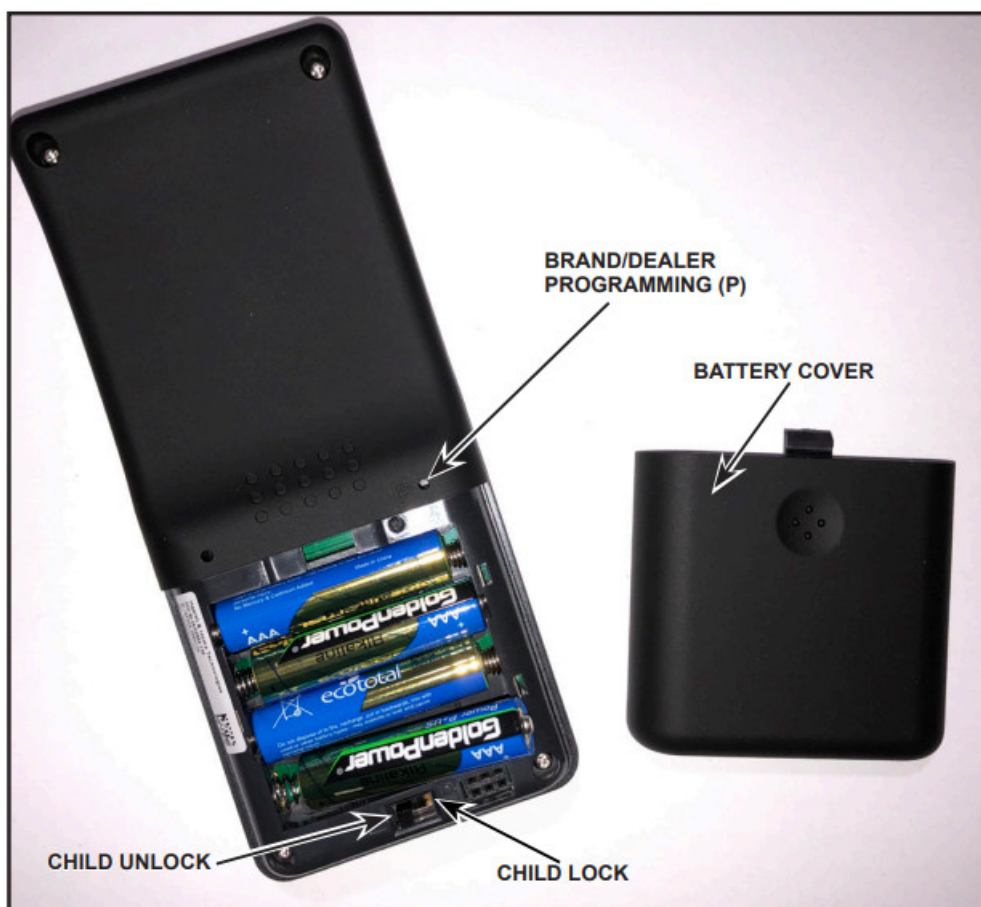

Figure 2 Install Batteries, Child Safety Switch, and Brand / Dealer Programming
6. Remove the battery cover from the back of the RC450 and install the four AAA batteries in the proper orientation marked in the battery cavity. Ensure the child lock switch adjacent to the battery cavity is in the UNLOCKED position. See Figure 2.
2. Locate the programming hole on the back side of the remote. It is marked as "P" on the right side above the battery cover as shown in Figure 2.